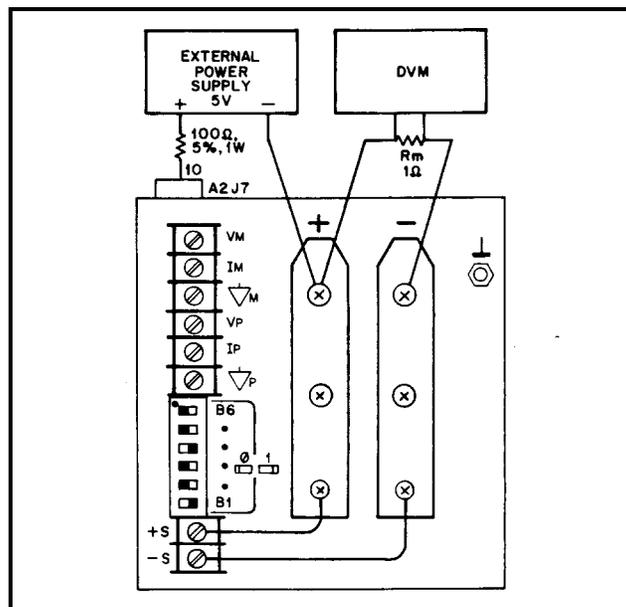

Figure 2-3. CC Zero Calibration Setup
- Connect the test setup shown in Figure 2-3.